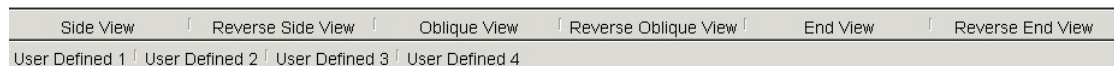

Figure 3.8
**Pre-Defined Rotations** (Figure 3.8)
**User Defined 1 -4:** Enables the user to pre-program views and angles of scans for easier recognition of targets (Figure 3.8).